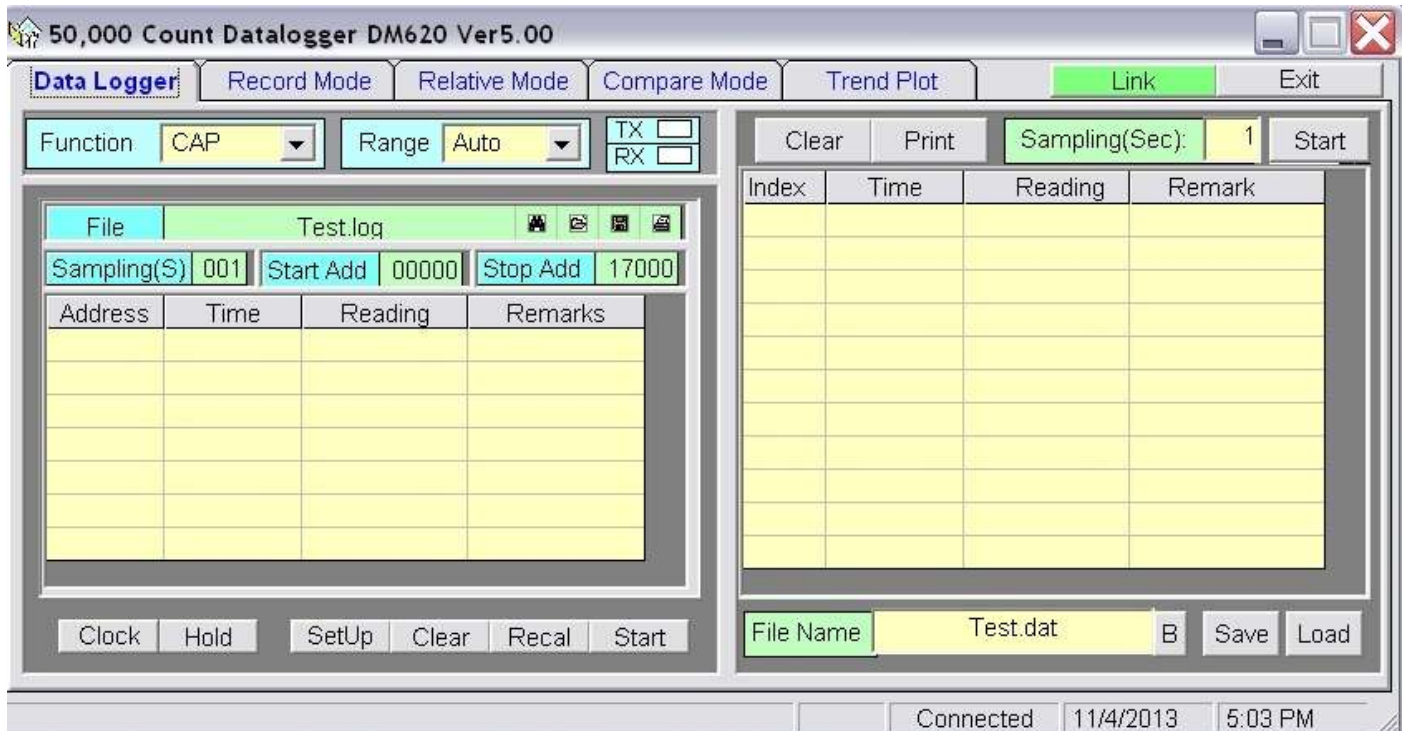

Figure 2: Data Logger Mode
Data Logger Mode – Measures the readings for a function at set intervals and stores these raw values in memory. In every mode, the time at which each reading is taken is also recorded. See Fig 2.
- Once the Logger program has begun running, the following screen should appear (Fig 2), although the LHS may be different since the program will show whatever mode the Data Logger is in when the link is established:
6. Start the LoggerDMM program. The PC interface window will appear on screen. See Fig 2.